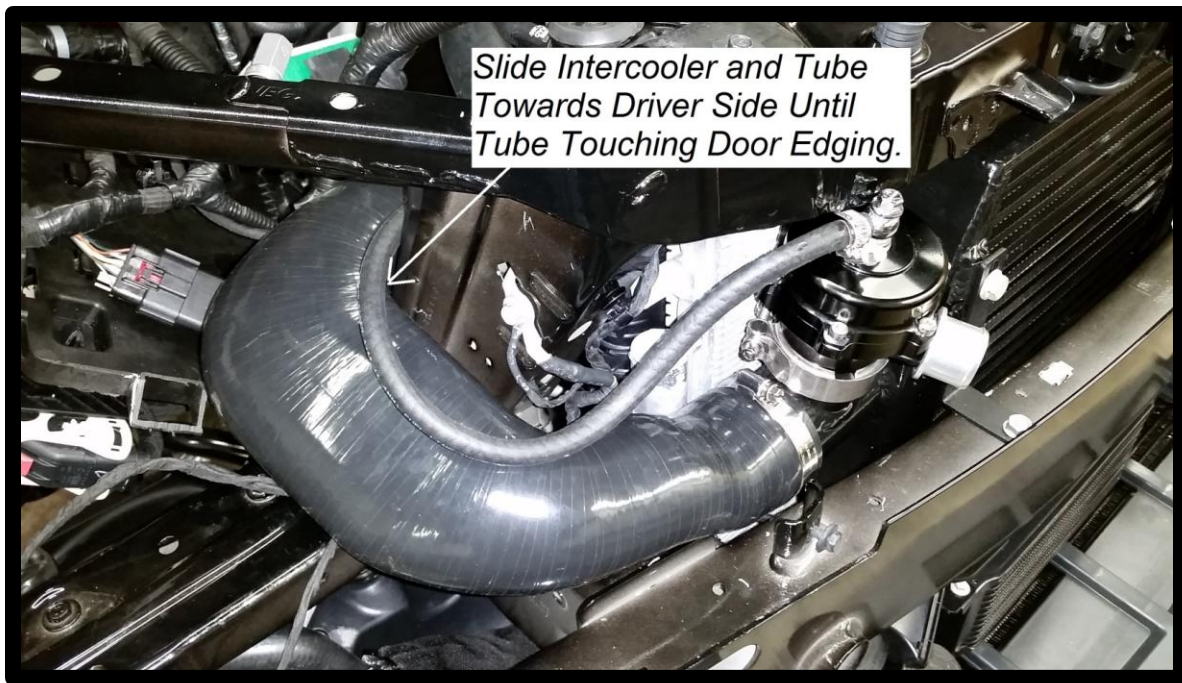

Figure 40: Positioning of Intercooler
7. Now loosely install the two intercooler tubes. The purpose of installing the tubes now is to center the intercooler on the front cross member. Once the tubes are loosely installed, slide the intercooler as far as possible to the driver side without the intercooler outlet tube on the passenger side of the intercooler falling off. The intercooler outlet tube should be touching the protective door edging. See Figure 40.